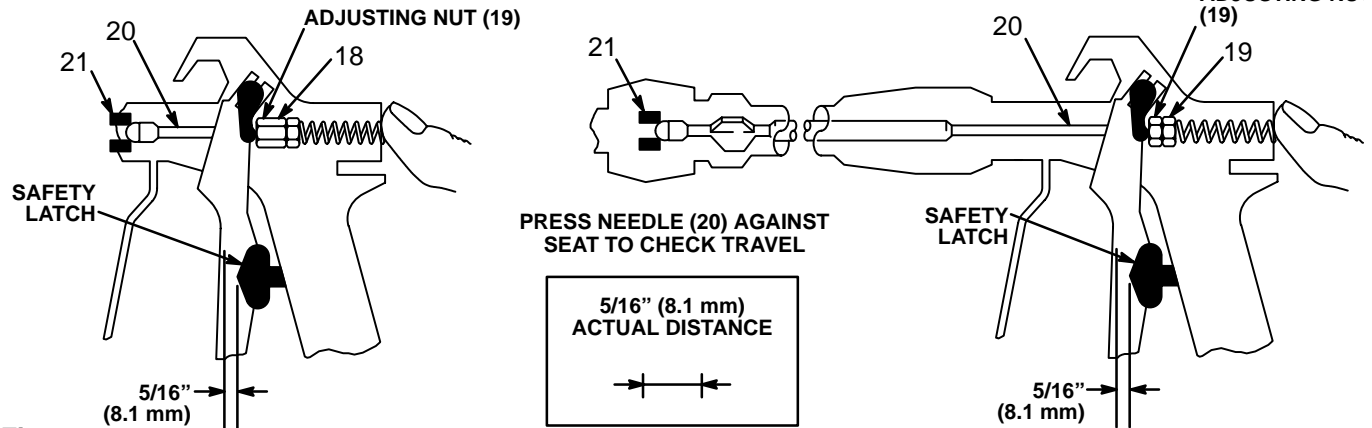

Fig 4
1. Relieve pressure. Disconnect the fluid hose. Remove the spring retainer (22).
2. Press the needle into the seat (21) with a finger. With the safety latch disengaged, check the travel of the gun trigger. It should be 5/16 in. (8.1 mm). See Fig 4.
4. Install the gasket (6) and retainer (22).